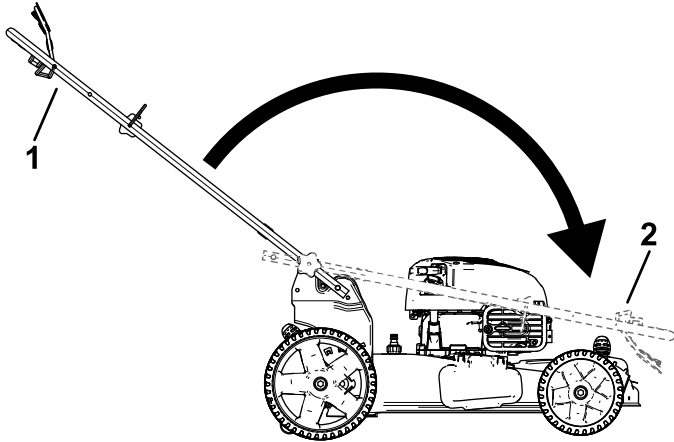

**Figure 23**
1. Remove and save the 2 handle knobs and 2 carriage bolts from the handle brackets (Figure 23).